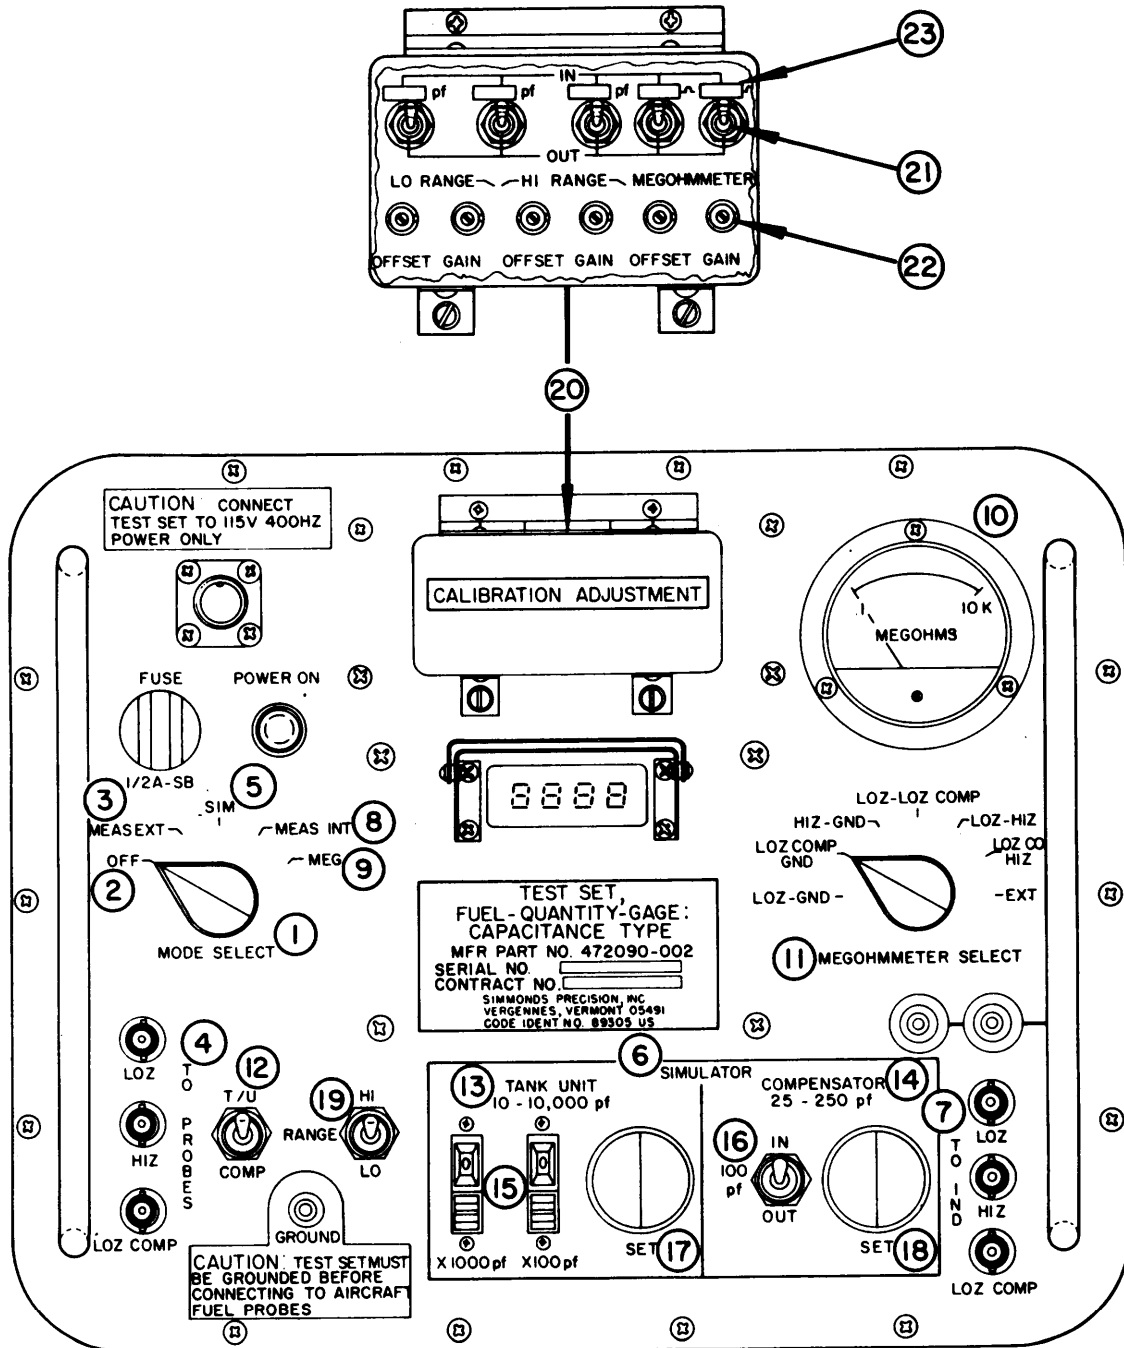

Figure 1-2. Front Panel Controls and Indicators
**1-4. Operational Description.** This description gives an account of the switches and controls on the front panel by function (Refer to Fig. 1-2).
**1-5. Mode Select.** This switch (1) controls the functions of the Test Set.
- b. MEAS EXT (3):* Measures external capacitance through jacks labeled, TO PROBES (4).
- c. SIM (5):* Switches power off and switches pre-selected value of capacitance in SIMULATOR (6) section to jacks labeled, TO IND (7) (indicator).
- d. MEAS INT (8):* Switches capacitance measuring section to read SIMULATOR (6) section, which can then be set to the desired value.
- e. MEG (9):* Switches megohmmeter (10) into circuit.
**1-6. Megohmmeter Select.** This switch (11) functions when MODE SELECT (1) is placed in MEG (9) position. It is used to select one of seven points between which leakage resistance is to be measured.
**2-1. General.** Refer to Figure 1-2, closeup of Front Panel Assembly, for support of the following instructions.